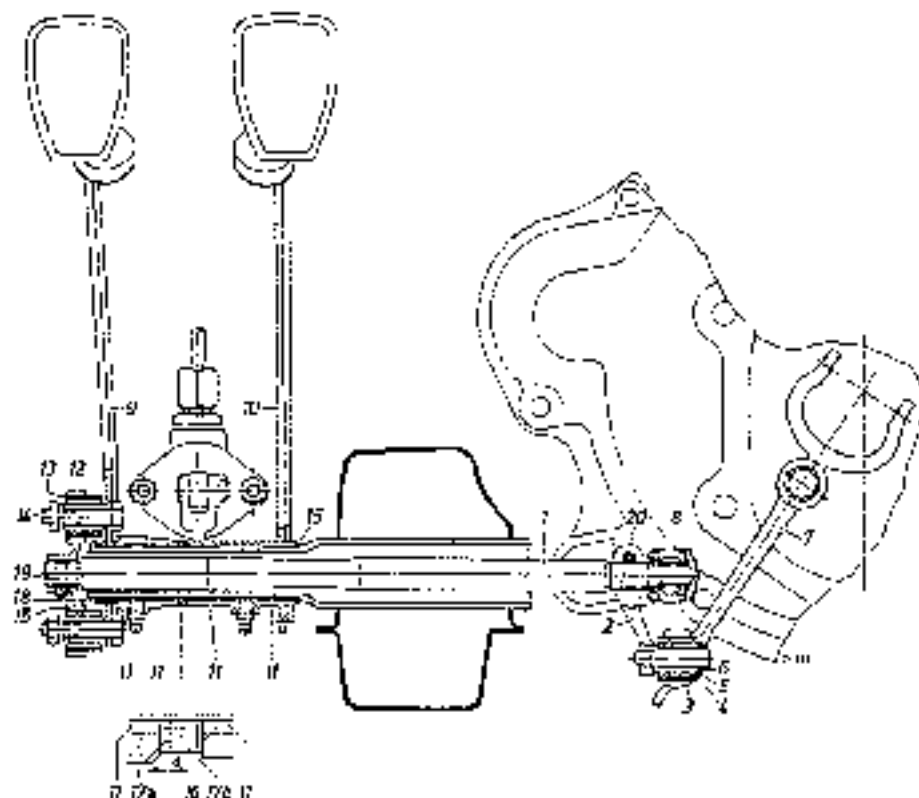

Fig. 29-10/1
- 3 a. In the case of the 4th version with swivel support unscrew the two hexagon nuts (14) on the flange (12) of the clutch pedal (9) and remove together with the lock washers (see Fig. 29-10/1).
4. Mark the relative position of the flange (12) and the pedal shaft (1). Unscrew the clamping screw (19) on the flange and press the flange off the clutch pedal shaft.
5. Remove the snap ring (18) and washer (15) from the mounting tube and pull off the clutch pedal.
6. Remove the washers (17) and (16) from the mounting tube (Fig. 29-10/1).
10. Install the brake pedal on the mounting tube; do not forget the rear washer (15) (see Fig. 29-10/1).
12. On cars not provided with a stay rod slide a spacer washer (17b), the Vulkolar washer (16) and a shim (17a) together with the clutch pedal onto the mounting tube instead of the washer and the spring washer. Install the washer (15) and install the snap ring (18) in the groove of the mounting tube (see Fig. 29-10/1).